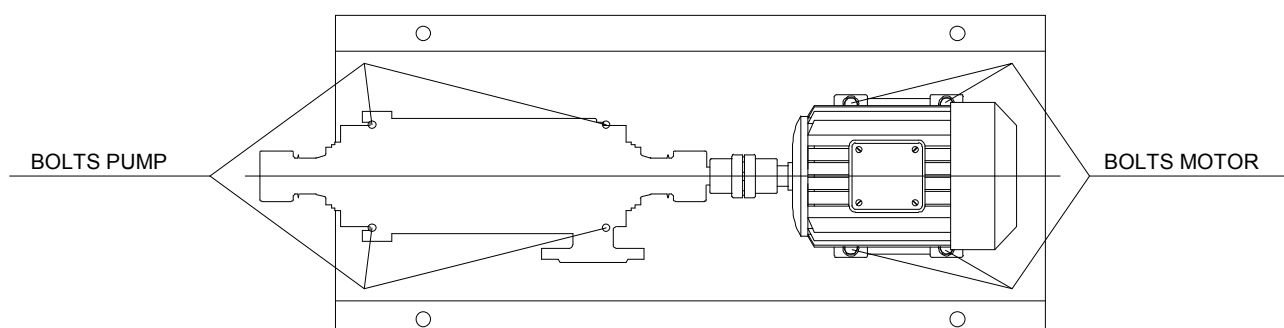

Fig. 19
- 8 - Place the electric motor on the baseplate and bring the two coupling halves together with approx. 2 mm. gap between them keeping the motor axially aligned with the pump shaft. In the event the two shaft heights do not align, proper shimming under the pump or motor feet will be required. Mark the motor and/or pump anchoring bolt holes. Remove motor and/or pump, drill and tap the holes, clean and mount pump and/or motor in place and lightly tighten the bolts (see fig. 19).